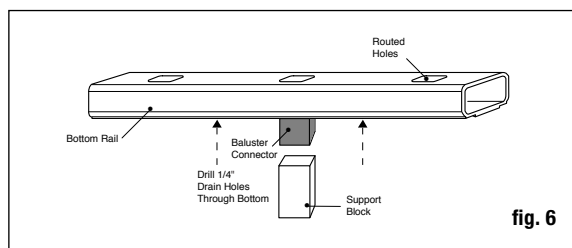

fig. 6
Step 7 Find the center of the underside of the bottom rail and attach the baluster connector included with the support block using the screw provided. Check building code requirements for the maximum spacing between deck surface and bottom of rail (sweep); we recommend 3" but it can be less if desired. If necessary, trim the support block to the determined height (fig. 6). **Drill two 1/4" drain holes through the bottom of the rail to prevent trapping water. Center drain holes between two baluster locations as baluster can block the pathway and stop water from properly draining.**